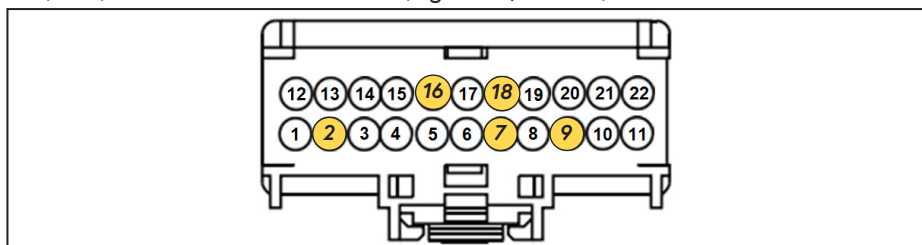

Figure 39 — SEIC interface connector
- Splice the following VMAC wires to the OEM Stationary Elevated Idle Control (SEIC) interface connector wires (Figure 39, Table 2).